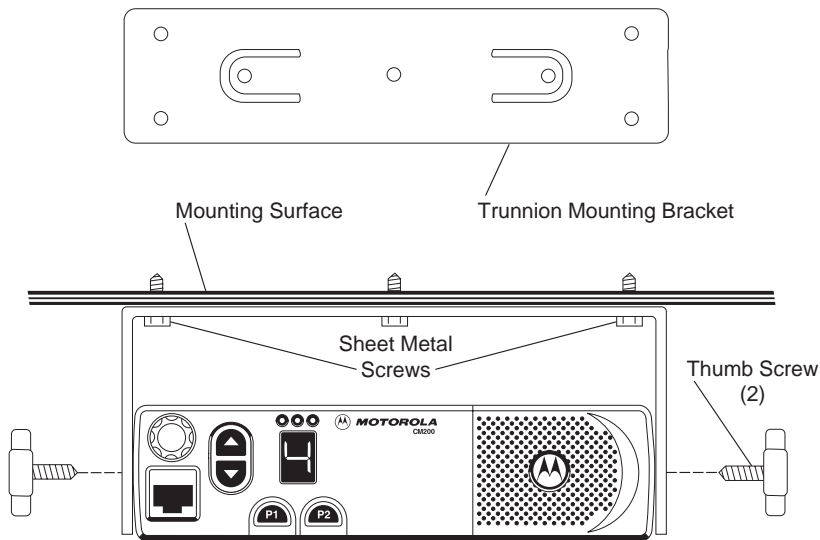

Figure 3-1. Transmission Hump Mounting (Top) and Below Dash Mounting (Bottom)
1. Select either the transmission hump or an open underneath portion of the dash to mount your radio. (See Figure 3-1.) When mounting the trunnion on the transmission hump, be careful that the transmission housing is not affected.
4. Secure the trunnion mounting bracket to the mounting surface with the three self-tapping screws provided. (See Figure 3-1.) Allow 3/4" clearance in front of the bracket so the locking bracket can be inserted in the radio.